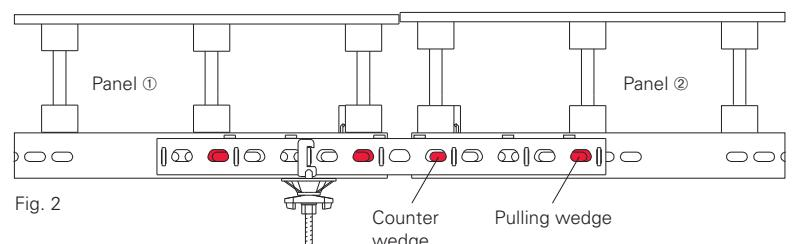

Fig. 2
- With element offsets, mount Alignment Clamp VRS on Panel ① positioned to the rear.
- Release pulling wedge on Panel ②.
- Use counter wedge to slightly open the formlining joint on Panel ②. (Fig. 2)